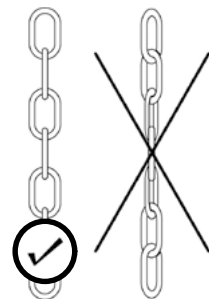

Figure 7
- The chain for emergency control should never be twisted (fig. 7), otherwise, failures in the operation of the emergency manual control unit may occur.